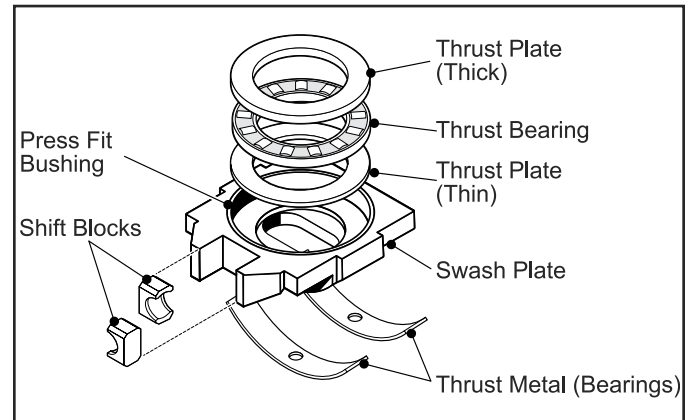

Fig. 36, Thrust Metal Bearing Removal
3. Remove the Thrust Bearing seated in the Swash Plate. (Fig. 36)
4. Remove the Swash Plate. (Fig. 36)
6. Remove the (2) Thrust Metals (bearing pads) from the Upper Case. (Fig. 36)